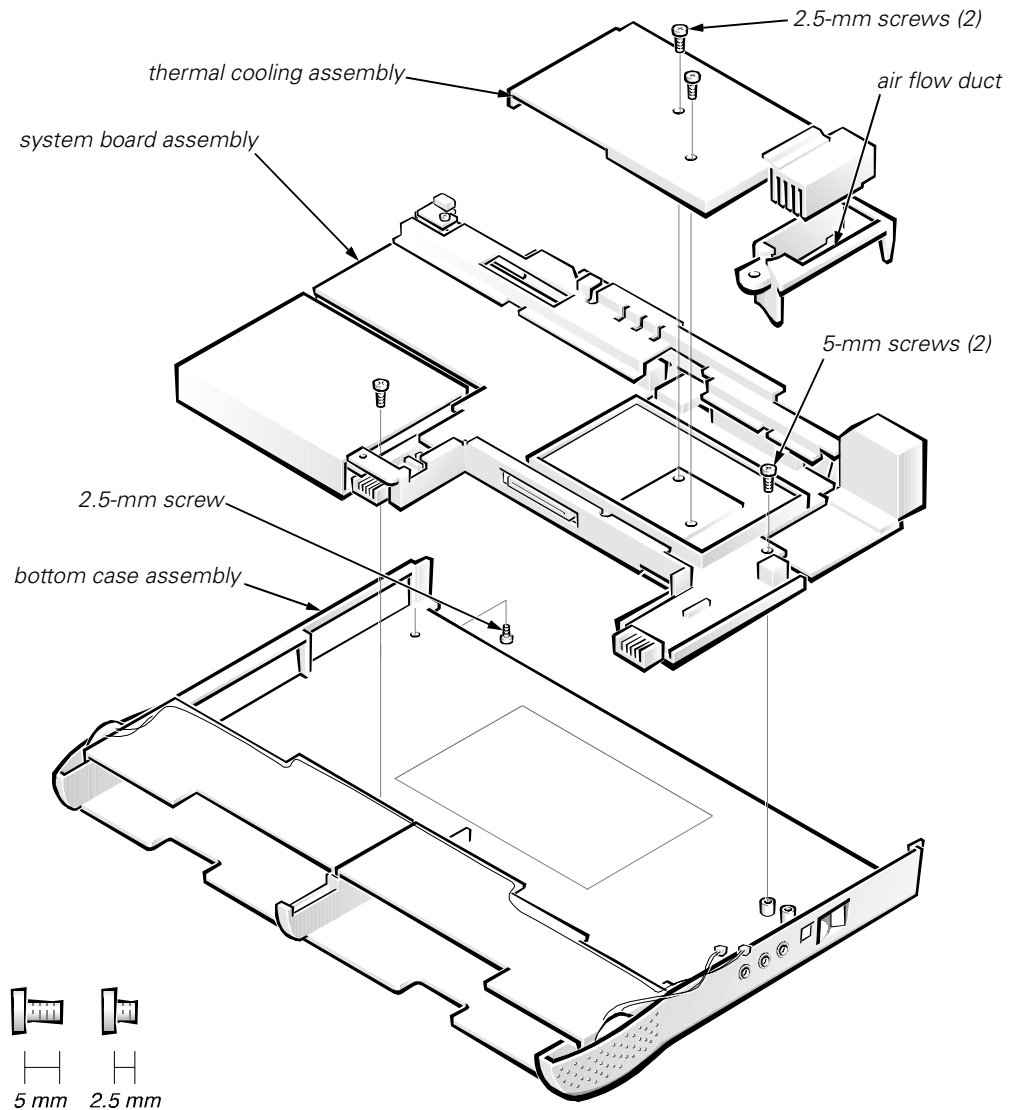

Figure 30. System Board Assembly Removal
12. Remove the following two screws from the system board assembly (see Figure 30):